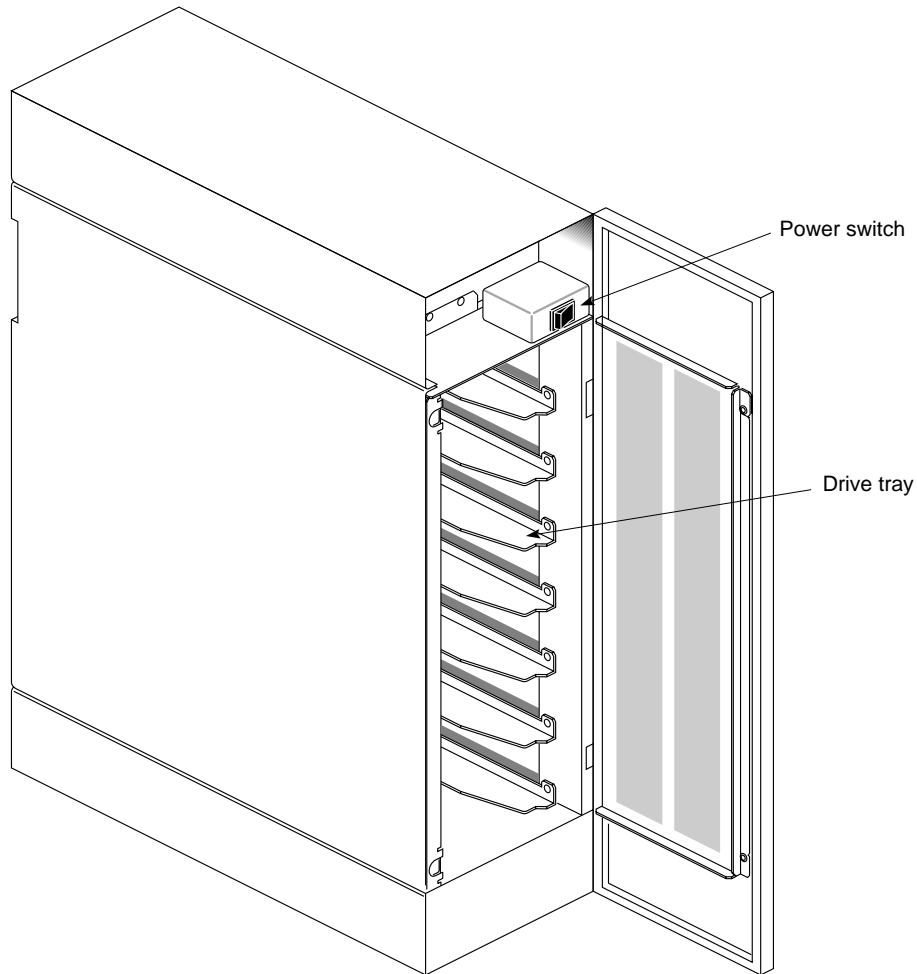

Figure 1-2 Vault L Storage Box, Front View (Drive Door Open)
- Figure 1-2** Vault L Storage Box, Front View (Drive Door Open)1-4
Figure 1-2 shows the front of the Vault L storage box with the drive door open.